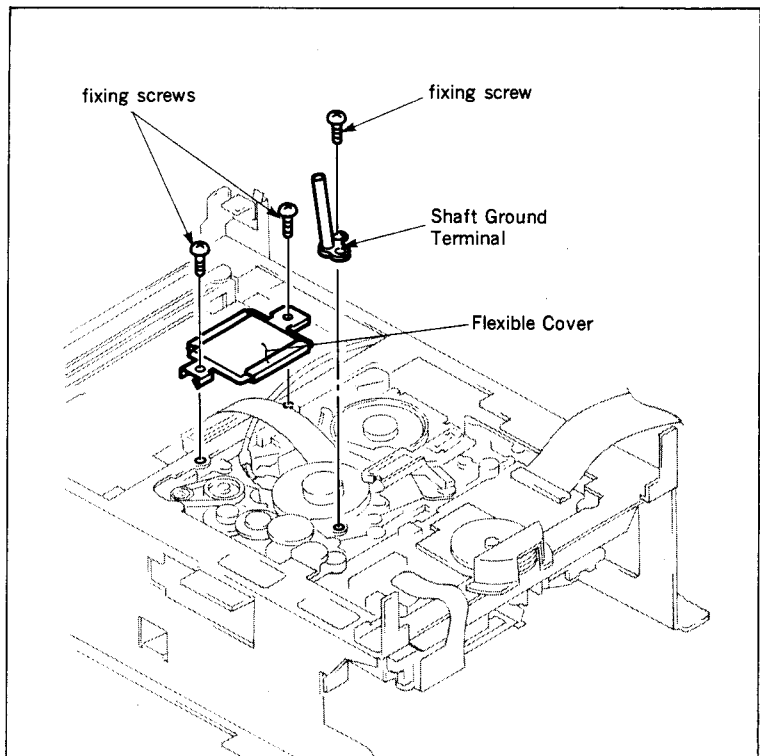
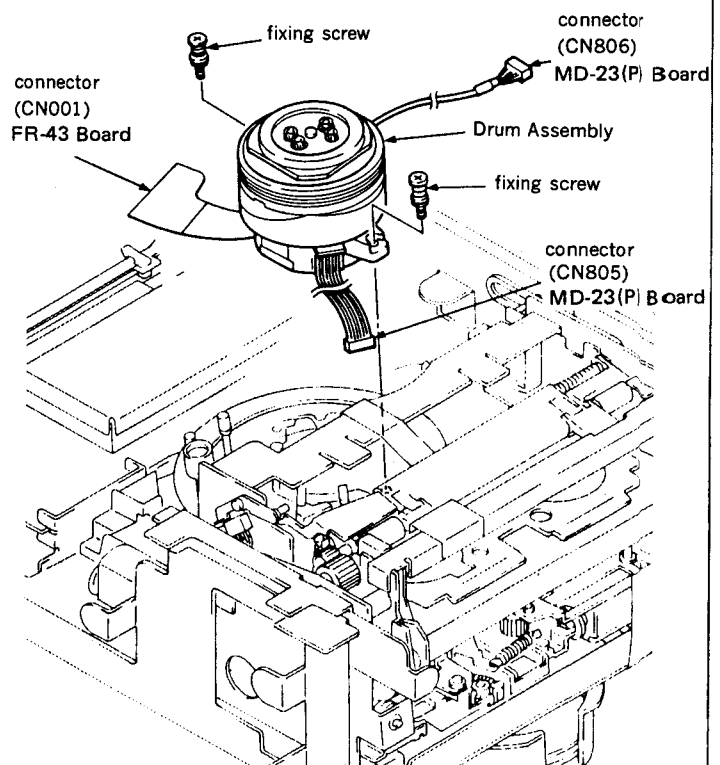

Fig. 1
Fig. 2
- (1) Open the MB-19 Board referring to Section 2-5-5.
- (2) Remove the Cassette-up Compartment Assembly referring to Section 2-3.
- (3) Remove the Fly Wheel referring to Section 4-1.
- (4) Open the HK-5 and SE-10(P) Boards referring to Section 2-5-6 and 2-5-7.
- (5) Remove the two fixing screws and remove the Flexible Cover. (fig. 1)
- (6) Disconnect the connectors (CN805, 806) on the MD-23(P) Board and disconnect the connector (CN001) on the FR-43 Board.
- (7) Remove the fixing screw and remove the Shaft Ground Terminal.
- (8) Remove the two fixing screws and remove the Drum Assembly. (fig. 2)